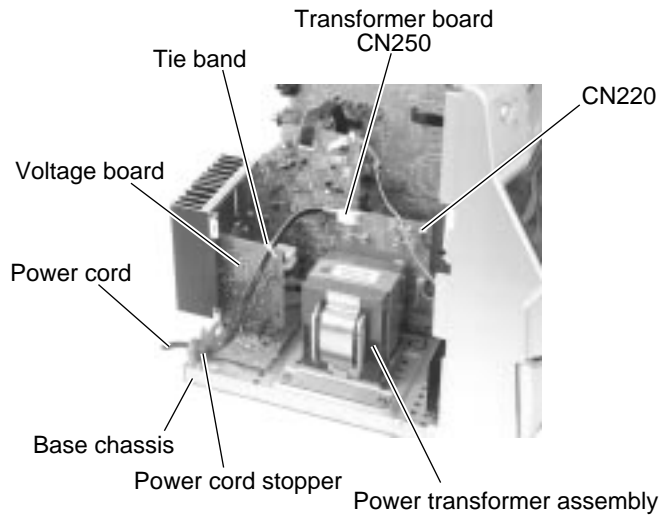

Fig.21
(Refer to Fig.21)
**■ Removing the power transformer assembly (See Fig.21 and 22)**
**■ Removing the power cord (See Fig.21)**